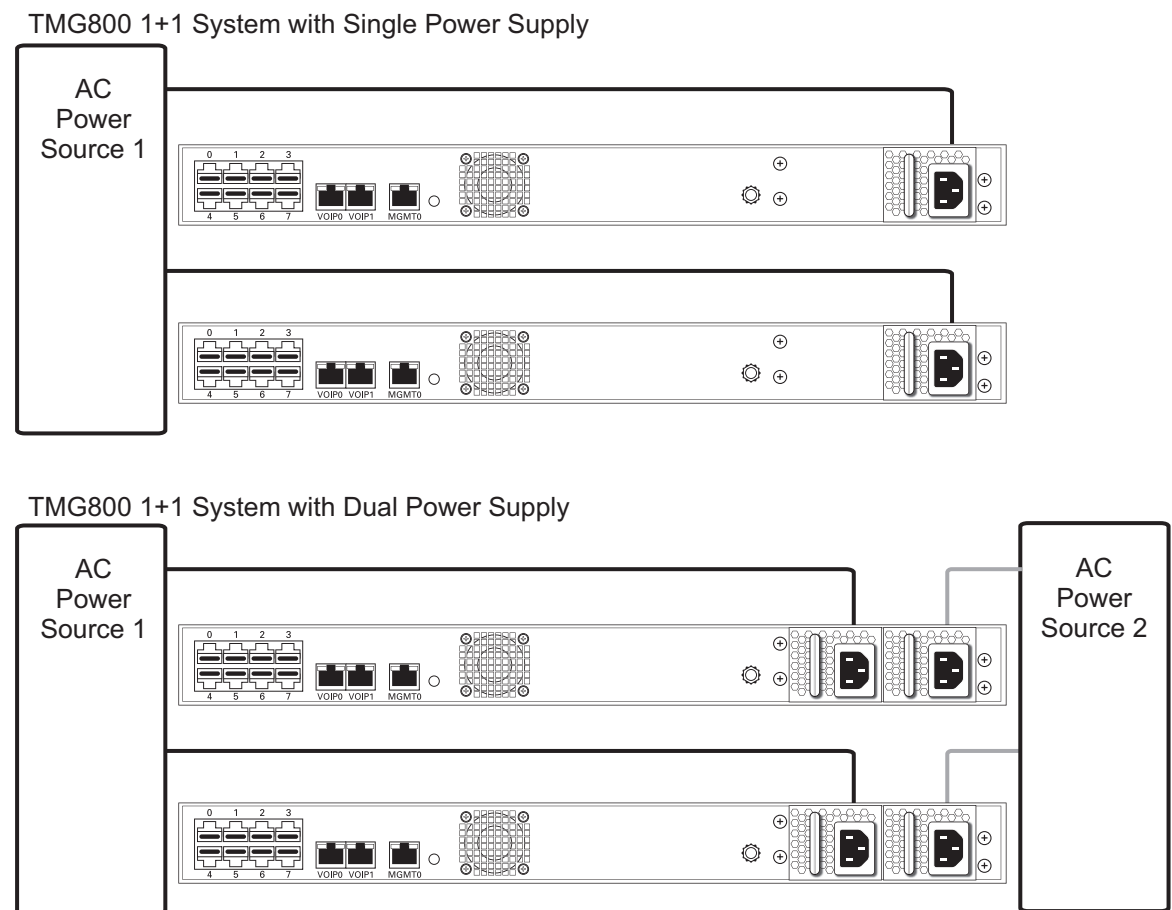

Figure 2.11 TMG800 and TMG800 +1 AC Power Connections
1. Connect an AC power cord between AC connector of the TMG800 and TMG800 +1 and AC supplies. See Figure 2.11.